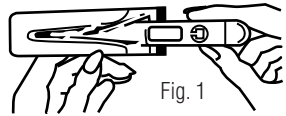

Fig. 1
1. Place a probe cover carefully over the tip (Figure 1). The use of a probe cover is recommended to help avoid spreading germs, and to keep the thermometer clean. The thermometer should be cleaned after use even when probe covers are used.